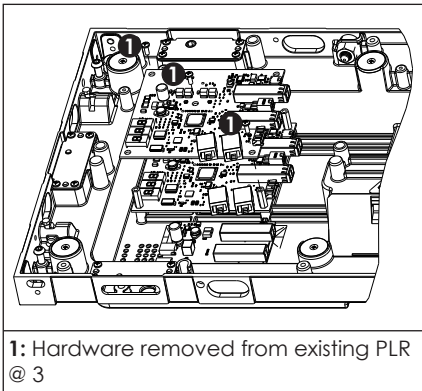

Figure 36: Secure Second PLR
3. Position the second PLR on top of the existing PLR. Use a Phillips screwdriver to secure the hardware (HC-1012 @ 3) set aside from **Step 1** into the second PLR. Hand-tighten to 5 in-lbs. Refer to **Figure 36**.